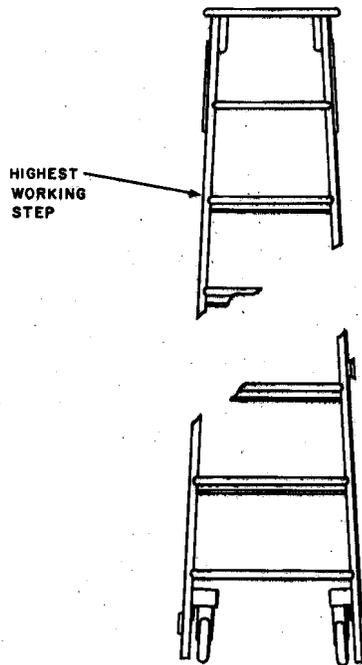

Fig. 4—Portable Rolling Ladder Four Feet or Over
5.06 A ladder of sufficient length shall be used so that work can be performed while standing no higher than two steps from the top of the ladder (see Fig. 4). Except for ladders under 4 feet in which case you may stand on the top step, not the platform.